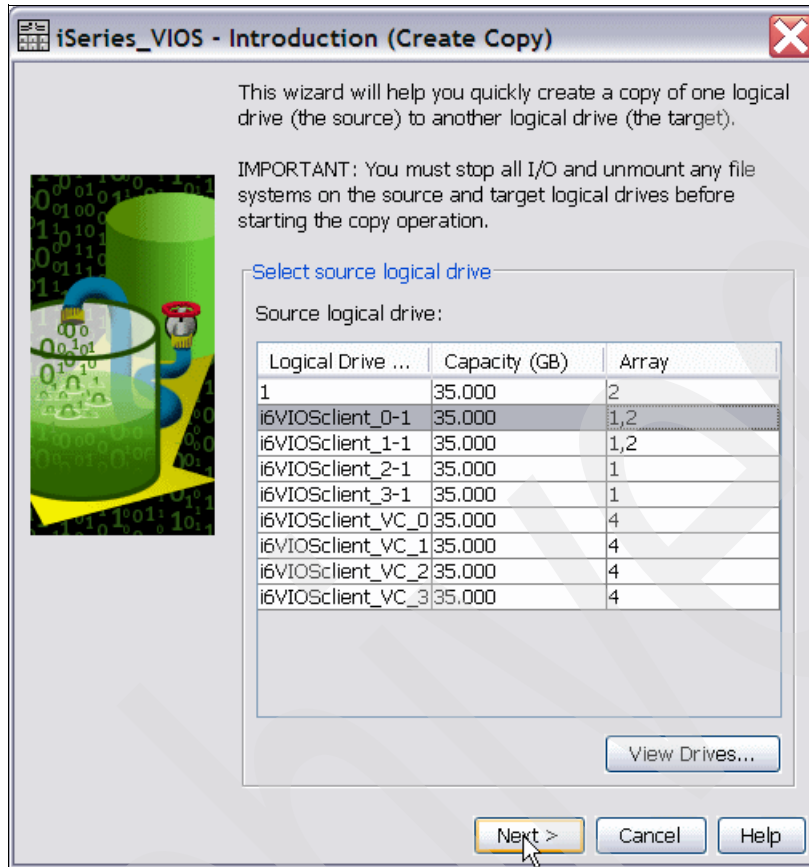

Figure 8-22 Select the Volume Copy source drive
5. This starts the Create Copy wizard. On the first wizard window select the Volume Copy source logical drive (FlashCopy logical drive), as shown in Figure 8-22.